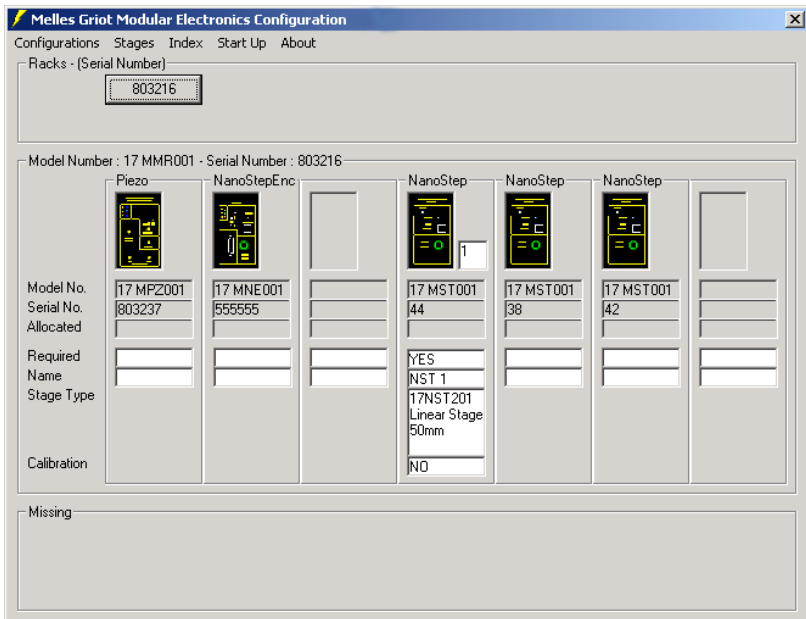

Fig. 5.1 MG17_Config Configuration Program
Fig. 5.1 shows the configuration program screen when a NanoStep™ module is included in the rack.
- 2) In the 'Modular Electronics Configuration' window (see Fig. 5.1) LH Click on the icon of the NanoStep™ module. The green 'status' light on the front panel of the actual module flashes once as an aid to identification.